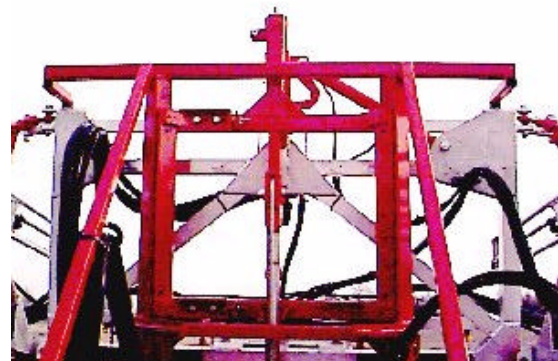

Fig. 19 Top of height mast and boom
1. Raise the boom to the top of the height mast ensuring that the centre section hits both the rubber stops (Fig. 19).
3. Raise the boom to the top of the height mast ensuring that the centre section hits both rubber stops (Fig. 19).